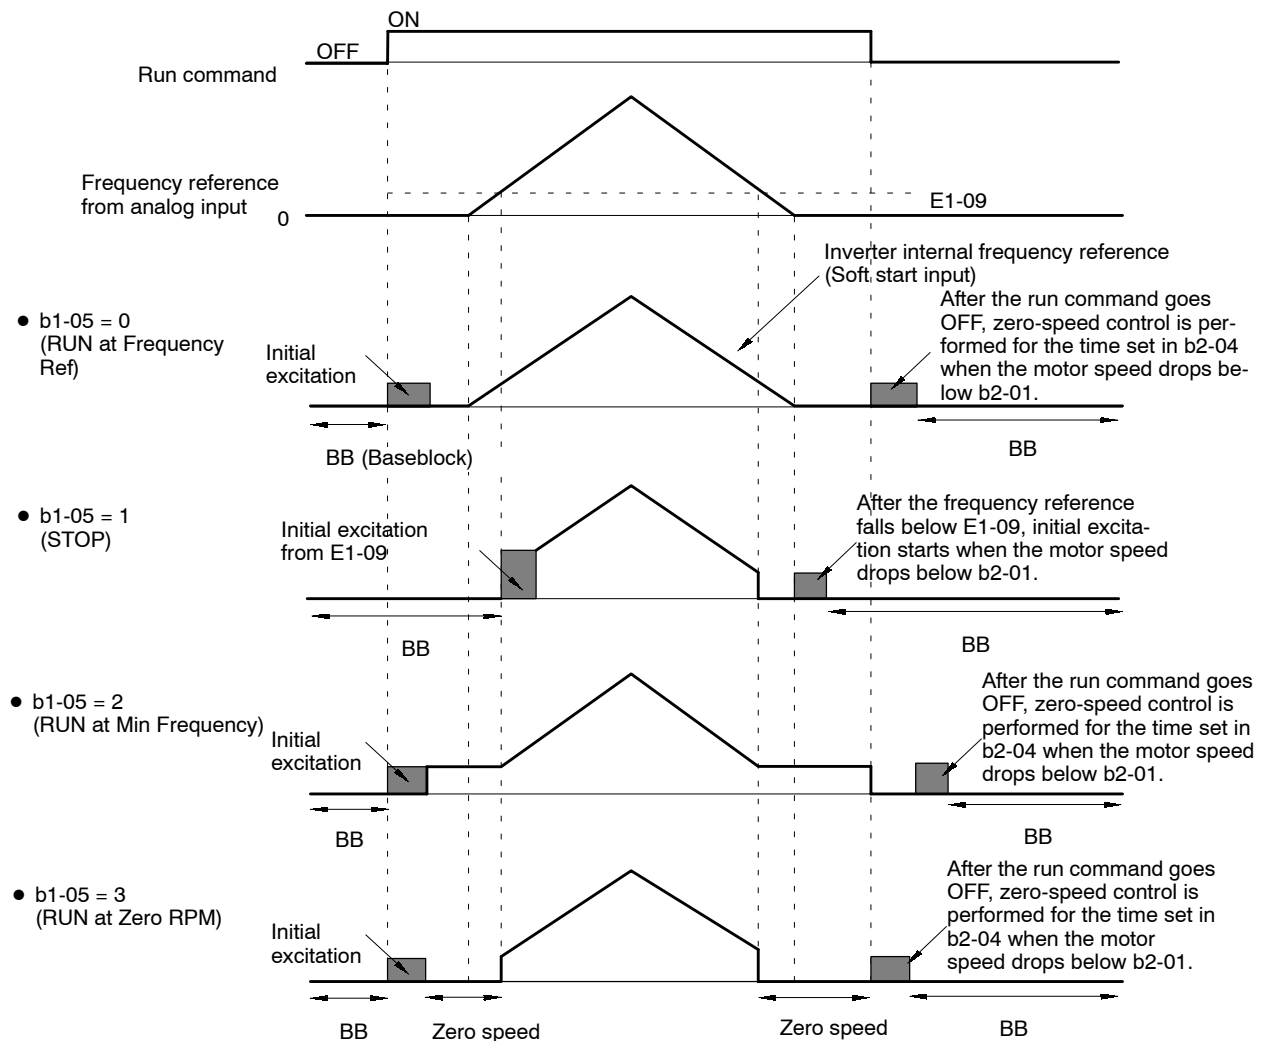

Fig 6.13 Settings for Initial Excitation and Zero-speed Control
- The timing of the initial excitation function depends on the zero-speed operation method selected in b1-05 (zero-speed operation), as shown in Figure 6.13.